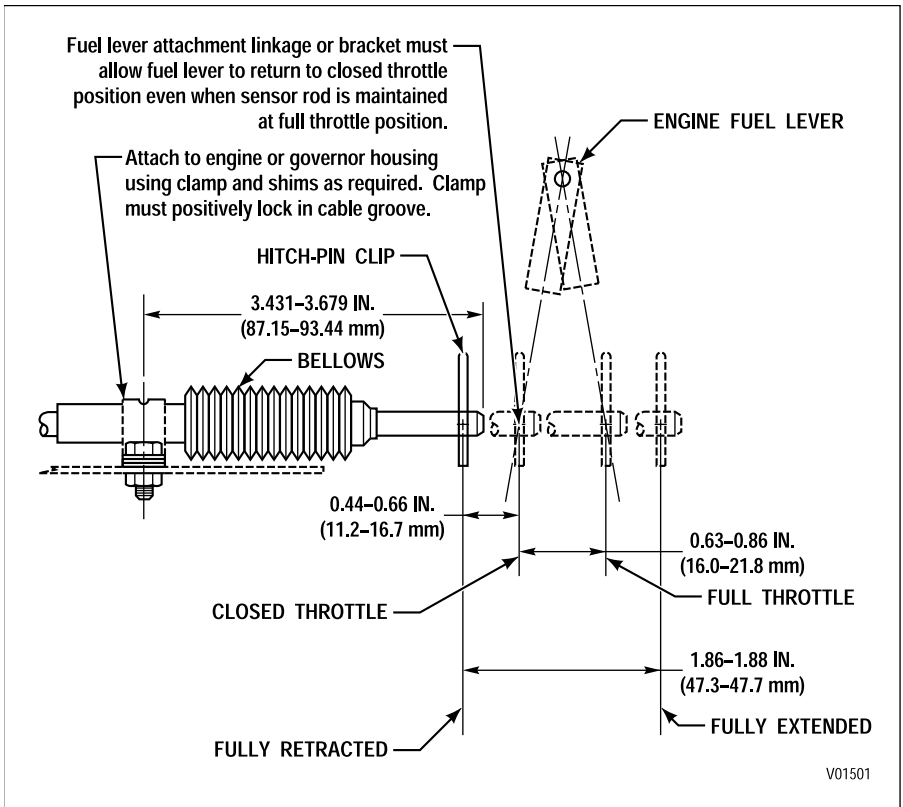

Figure 4-5. Hitch-Pin Throttle Sensor Installation Diagram
c. Hitch-Pin Throttle Position Sensor Installation. Refer to Figure 4-5.